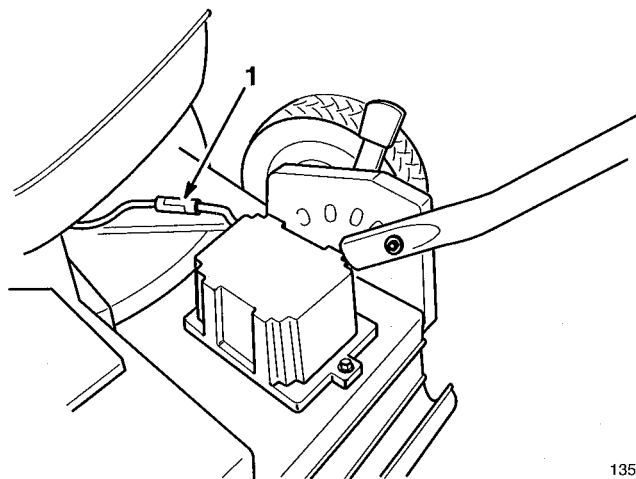

Figure 41
2. Disconnect leads connecting starter motor to battery (Fig. 41).